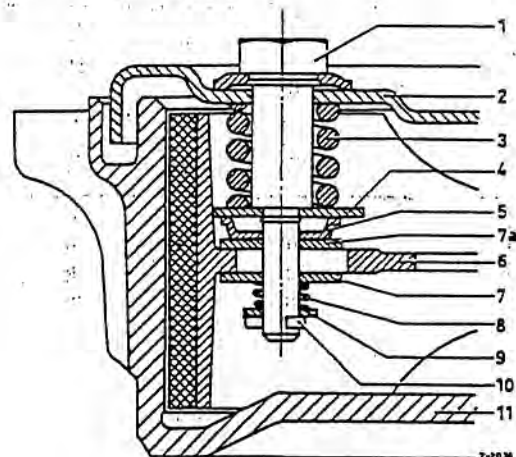

Fig. 42-9/2
8. Put the cup washer (5) on the adjustment bolt (1) (Fig. 42-9/1).
**Note:** On the 65 mm rear wheel brake an additional washer (7a) has been installed between the cup washer (5) and the brake shoe (6) (Fig. 42-9/2).